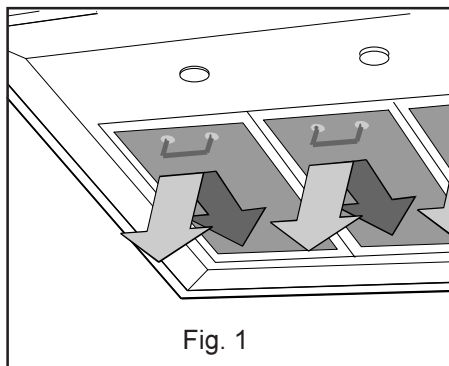

Fig. 1
- Push each handle towards the back and pull downwards Fig. 1.